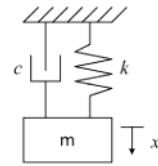

Figure Q1
1. The mass-spring-damper system is shown in Figure Q1, with $k = 500 \text{ N/m}$, $c = 2 \text{ N.s/m}$ and $m = 2 \text{ kg}$. An initial velocity of v is given to the mass at its equilibrium position ($x(0)=0$). Determine the expression for displacement of the mass, $x(t)$.